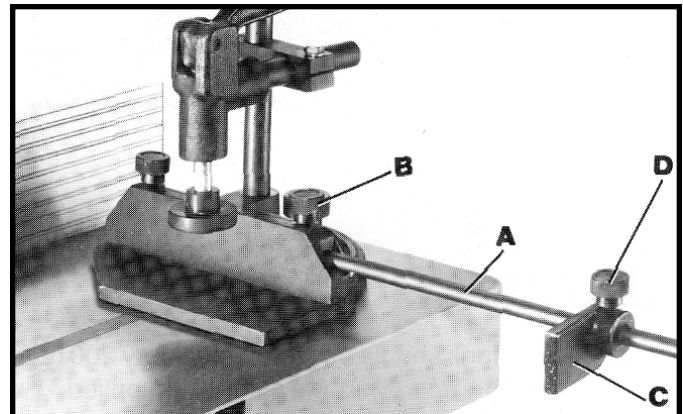

Fig. 50
1. Insert stop rod (A) Fig. 50, into hole on side of miter gage body and lock in place with lock knob (B).
2. Assemble stop (C) Fig. 50, to stop rod (A) as shown, and tighten lock knob (D).